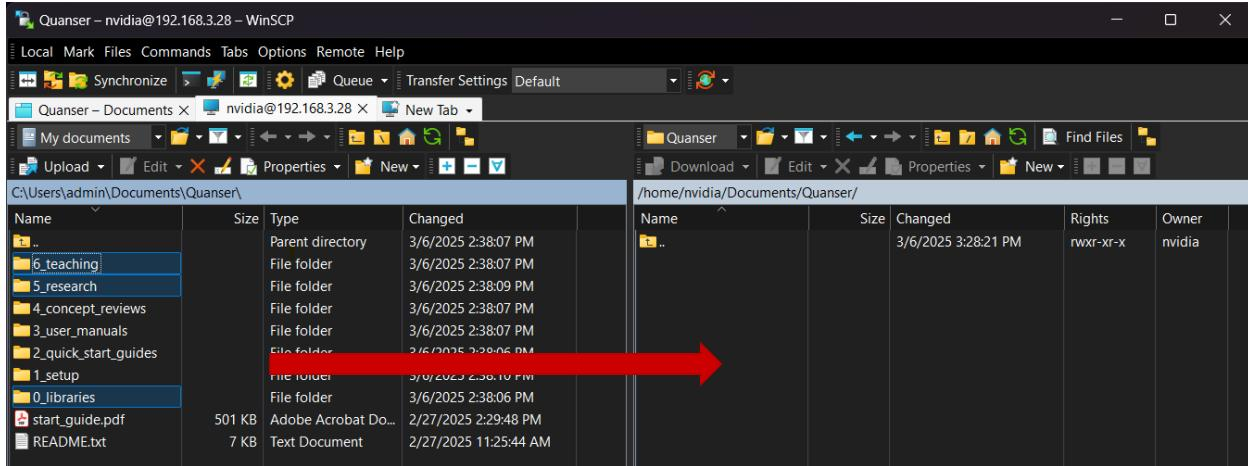

Figure 4. Transferring files to QCar
1. Make a directory on the QCar for Quanser resources where files will be transferred to and from. We recommend creating a folder called Quanser under Documents. The following directory should now exist: `/home/nvidia/Documents/Quanser`. To connect to the QCar2 and create this directory, we recommend using WinSCP, as shown in figure 4. (see the User Manual - Connectivity for how to remotely connect to the QCar).
2. Using WinSCP, on your PC side, navigate to `Documents/Quanser`. On the QCar 2 side, navigate to your new `Quanser` folder. Your WinSCP window should look like figure 4. From your PC side, copy/drag the `o_libraries`, `5_research` and `6_teaching` folders over to your new Quanser folder in the QCar2.